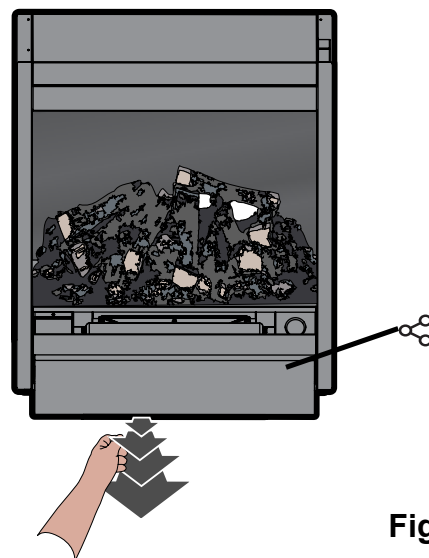

Fig.3
1. Leaving the flame effect on, open the drawer fully, gently pull the drawer fully out by the tab. (See Fig.3)
2. Pull out the drawer as far as possible by the tab. (See Fig.3)
2. Gently pull the drawer out as far as possible. (See Fig.3)
1. Gently pull the drawer out as far as possible. (See Fig.3).